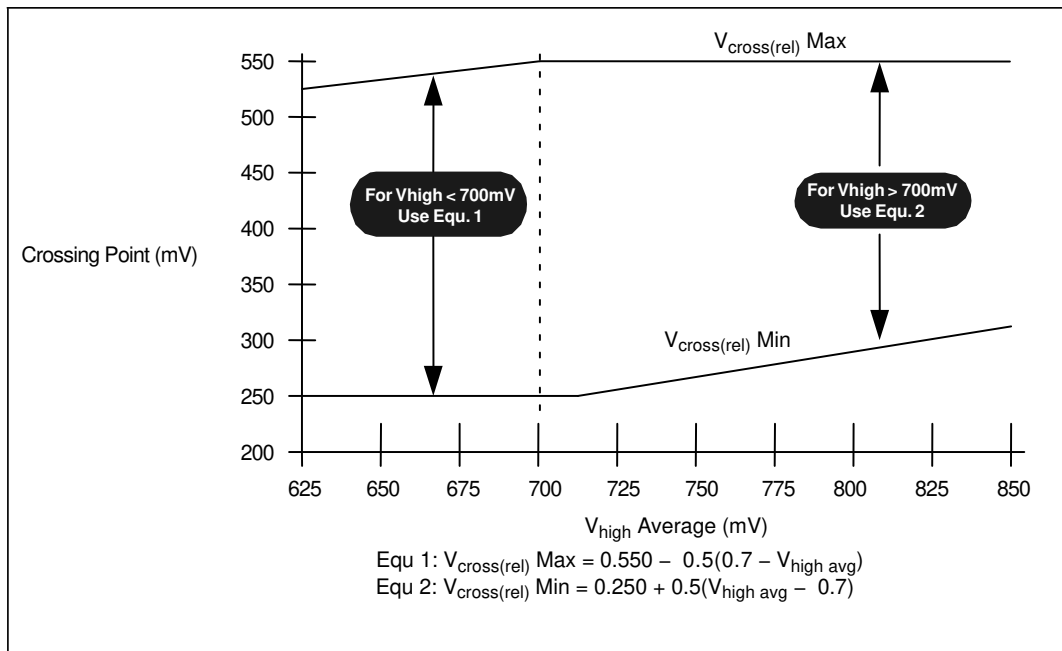

Figure 16. V_{cross} Range Clarification (Note 34)
16. Vcross(rel) Min and Max are derived using the following, $V_{\text{cross}}(\text{rel})\ \text{Min} = 0.250 + 0.5 (V_{\text{high avg}} - 0.700)$. $V_{\text{cross}}(\text{rel})\ \text{Max} = 0.550 - 0.5 (0.700 - V_{\text{high avg}})$. (see Figure 16 for further clarification).